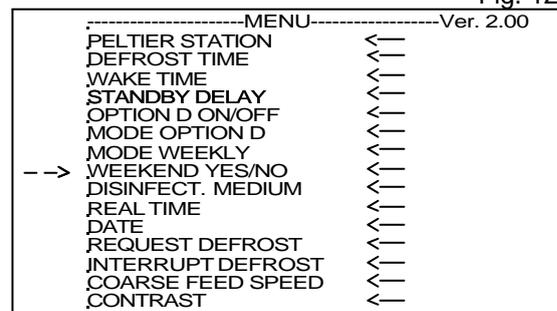

Fig. 124
- ?? Press the enter button (fig. 116.10) to select the submenu (fig. 124).